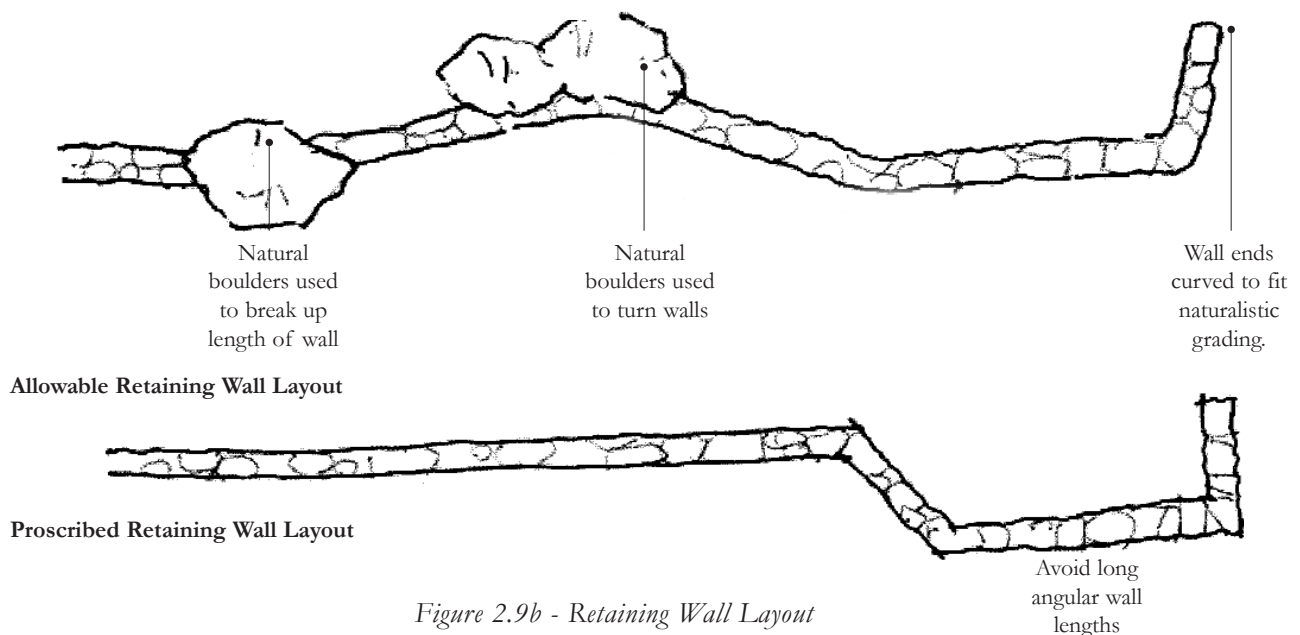

Figure 2.9b - Retaining Wall Layout
- Site walls shall incorporate multiple offsets and vertical variation to follow the existing topography and avoid long straight lines in the landscape. See Figure 2.9b.